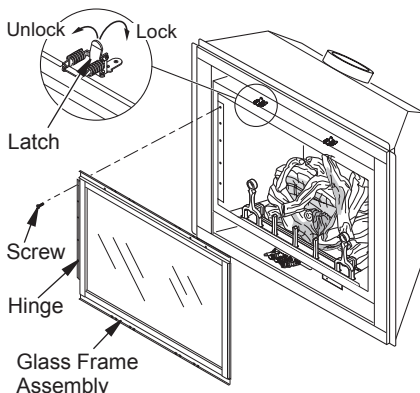

Figure 42 - Removing/Replacing Glass Door
2. Lift up on latches to unlock. There are two on top of firebox and two below firebox that hold glass door in place (see Figure 42).
3. While holding glass door to prevent it from falling and causing injury, remove five screws from hinge located on left side of door frame assembly (see Figure 42).
5. Close glass door frame. Lock latches by placing bar under tab on door and pushing down and back on latch (see Figure 42, page 25).